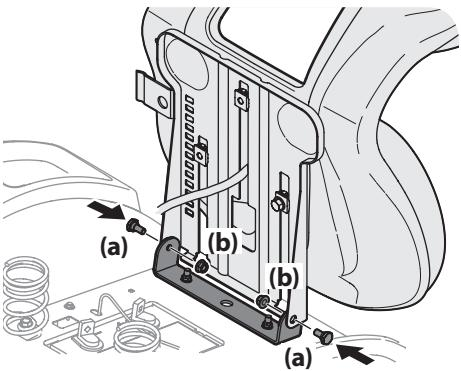

Figure 2-3
- Rotate the seat into position and secure the seat into place with the previously removed shoulder screws (a) and flange lock nuts (b). Be careful not to crimp or damage the wire harness while installing the seat. See Figure 2-3.